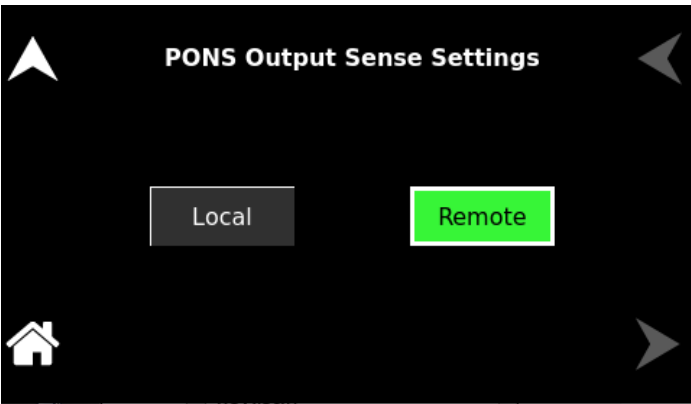

Figure 10-166. PONS Output Sense Settings
**PONS Output Sense Settings**      Programs the PONS output to ON or OFF state. Refer to Figure 10-166.